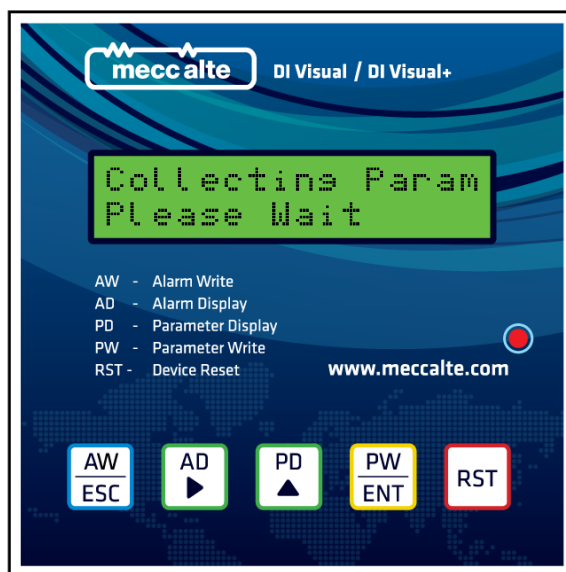

fig. 22
- 2) Once the SD card is inserted keep **PW/ENT** key as shown above pressed until you see "Collecting Param" message on the display as shown in Fig. 22 below.